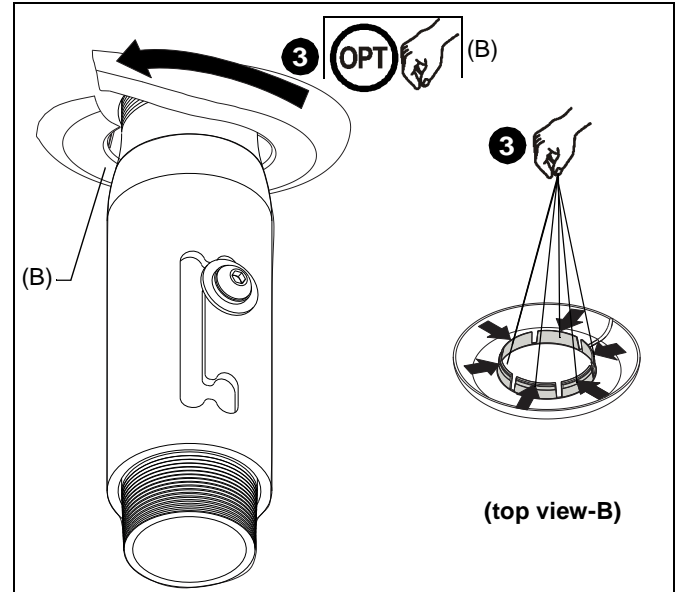

Figure 11
3. Install NPT ring (B) on extension column below ceiling tile (See Figure 11). If necessary, bend six tabs inward to secure ring to column.